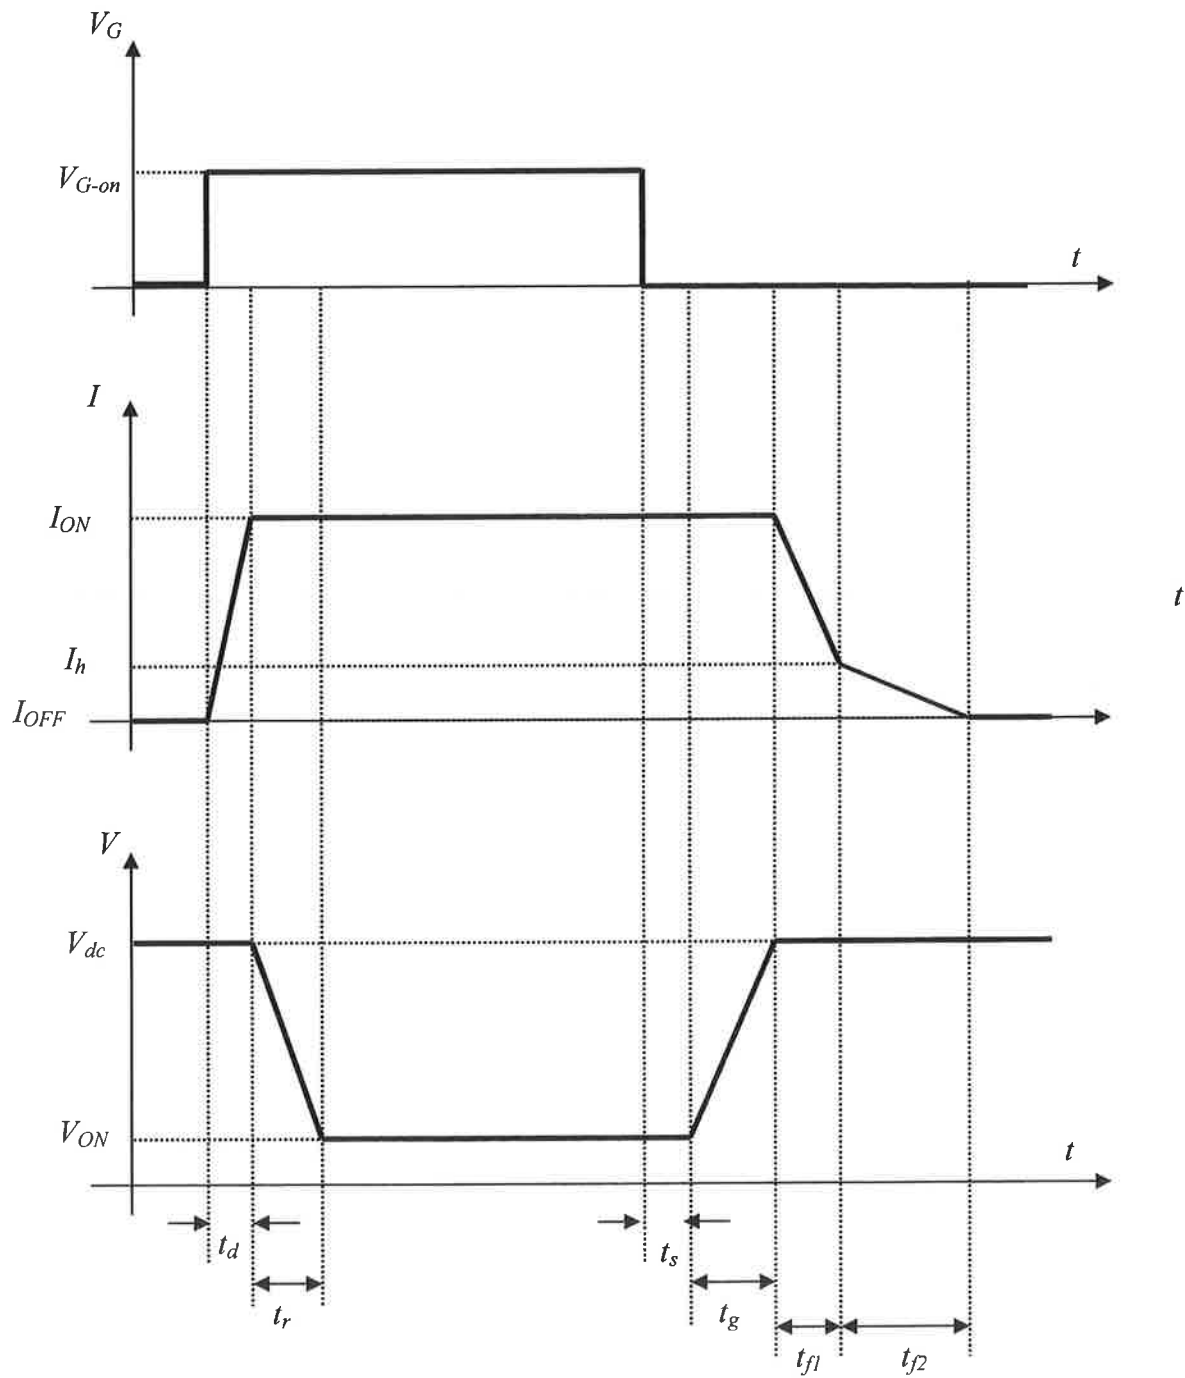

Fig. 2
(b) Assume now that the switch is not ideal and its waveforms are as shown in Fig. 2. The switch operates at a switching frequency of 100 kHz with a duty cycle $D = 50\%$. The other circuit parameters are: the gate voltage $V_{G-on} = 15$ V, the rail voltage $V_{dc} = 400$ V, the off-state leakage current I_{OFF} can be neglected ($I_{OFF} = 0$), the on-state current $I_{ON} = 1$ A, the on-state voltage $V_{ON} = 3$ V, the turn-on delay time $t_d = 0.1$ μ s, the rise time $t_r = 0.2$ μ s, the turn-off delay time $t_s = 0.1$ μ s, the turn-off voltage growth time $t_g = 0.3$ μ s, the fast current fall time $t_{f1} = 0.1$ μ s, and the slow current fall time $t_{f2} = 0.5$ μ s. Assume the current at the end of the fast current fall is $I_h = 0.3$ A.
- (i) What device is likely to have the waveforms shown in Fig. 2? Justify your choice. What is the significance of the current I_h ? [20%]